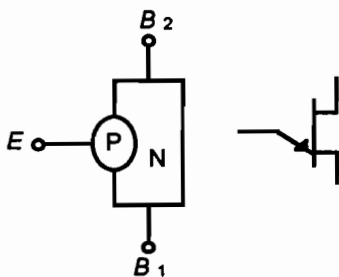
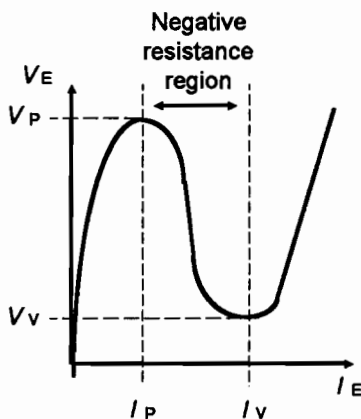

Figure 38.1
Figure 38.2
The unijunction transistor (UJT) is a three-terminal device having only one PN junction. It is composed of a silicon bar with ohmic contacts at each end, designated as base 1 (B1) and base 2 (B2). Fused to the silicon bar is a heavily doped emitter (E). The basic construction of the UJT and the schematic symbol are shown in Figure 38.1. Figure 38.2 illustrates the emitter characteristic curve of a UJT. Note the area in which emitter current is increasing while emitter voltage is decreasing. This is called the *negative resistance region* and is a unique characteristic of the UJT.